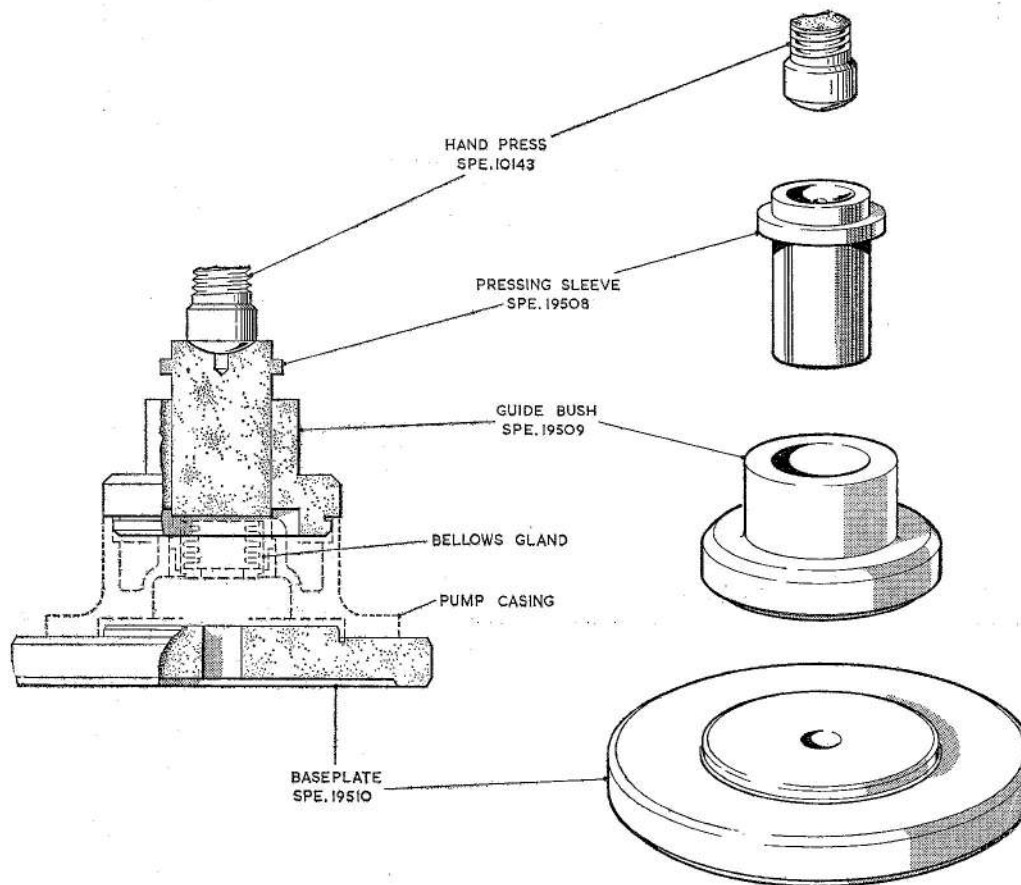

Fig. 5. Tools for removing metallic bellows gland from pump casing
- (2) Heat the pump casing (10) to between 125 and 150°C and using the special tools illustrated in fig. 5 press the bellows gland out of the casing.
- (3) The breather unit can only be removed from the pump casing using special tools. If the gauze is damaged, return the casing to the pump manufacturer for replacement of the complete breather unit.